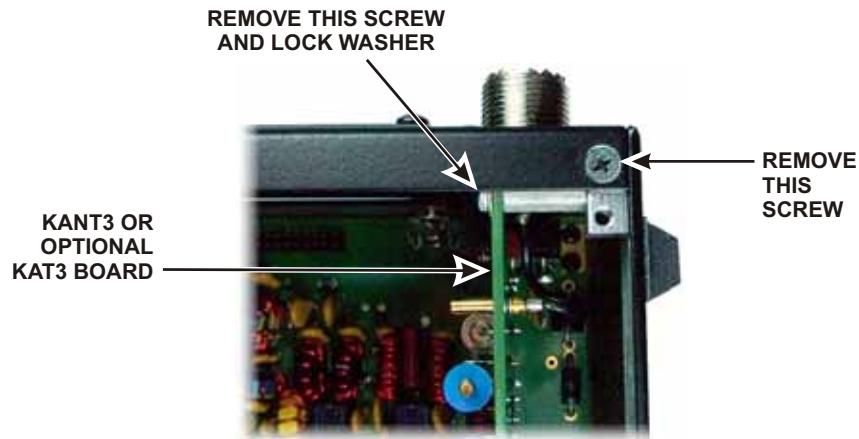

Figure 49. Removing Right Side Panel Hardware.
- Remove the two screws shown in Figure 49 so the 2D connector and standoff remain attached to the side panel. Remove the remaining screws in the right side panel to free it.
- Start one 4-40 3/16" (4.8 mm) black flat head screw through the rear panel into the 2D fastener shown in Figure 49.
- Replace the 4-40 1/4" (6.4mm) zinc pan head screw holding the KANT3 (or KAT3) board shown in Figure 49.